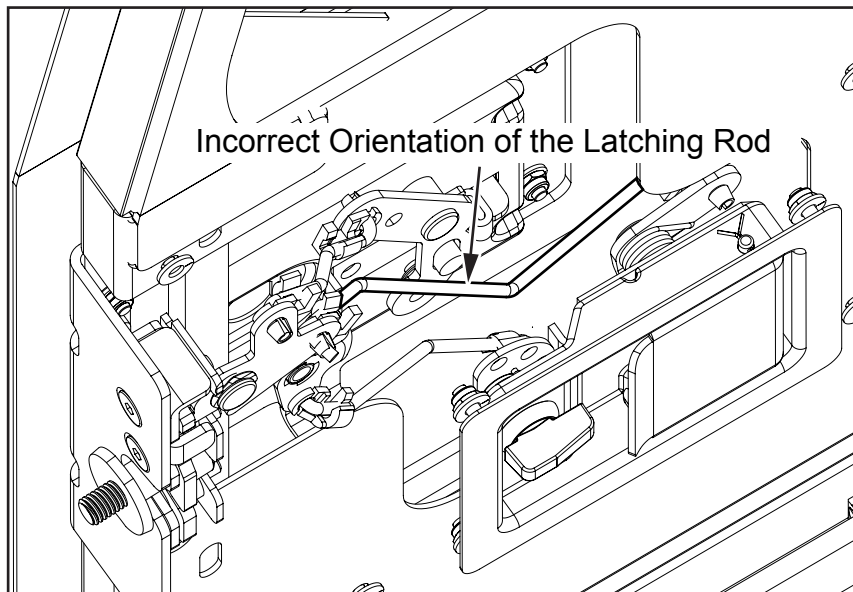
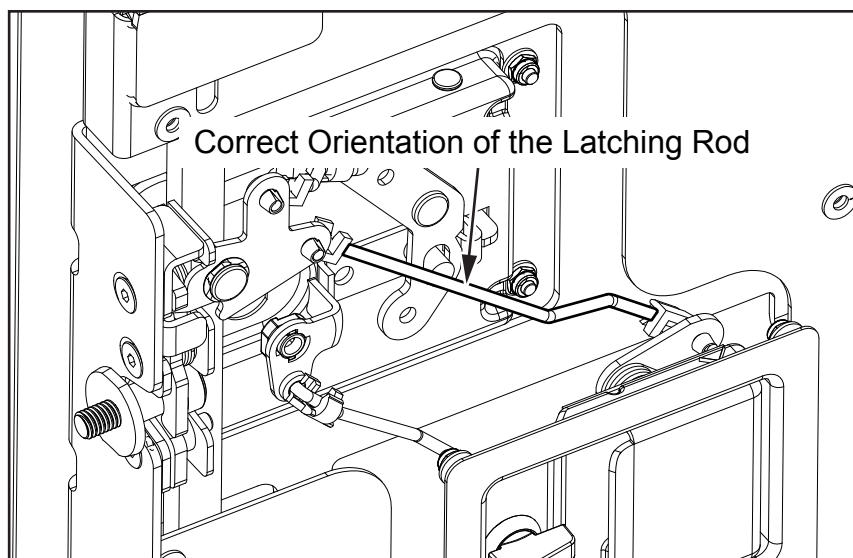

Figure 3, Incorrect Orientation
Figure 4, Correct Orientation
4. Locate the latching rod and verify its orientation. If the orientation of the latching rod is as shown in Figure 3, the installation is incorrect. Remove the latching rod and reinstall in the correct orientation as shown in Figure 4 (see *Figures 3 and 4*).